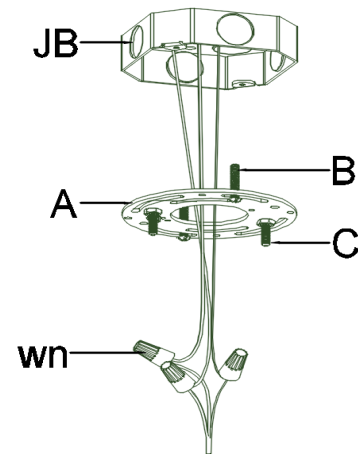

Fig. 3
CONNECTING THE WIRE (Fig. 3)
6. Connect the electrical wire as shown in Fig. 3, making sure that all the wire connectors are secured. If your junction box has a ground wire (green, or bare copper), connect fixture's ground wire to it. Otherwise, connect fixture's ground wire directly to mounting plate (A) using green screw provided.